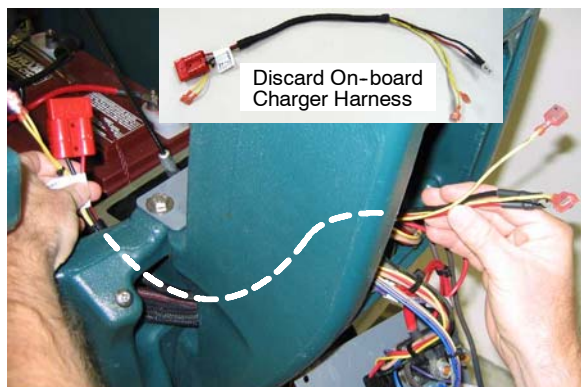

Fig. 8
8. Remove the on-board charger harness from the machine as shown and discard (Fig. 8).